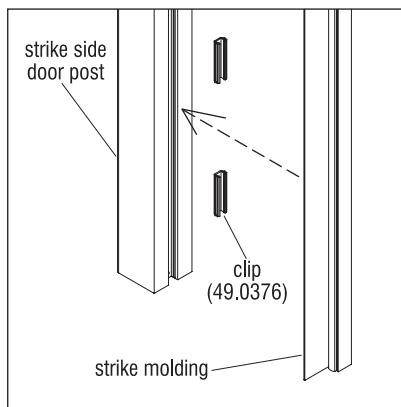

Figure 5 - Install New Strike Molding
5. Install replacement strike molding opposite of the original molding orientation (Figure 5).